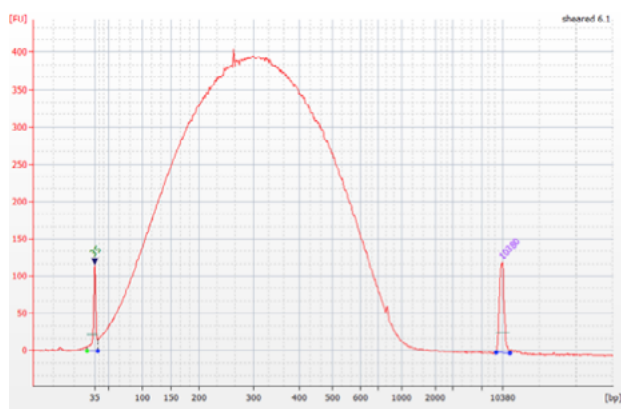

Figure 1: Typical Bioanalyzer trace for gDNA sheared to 300 bp using a Covaris Focused-ultrasonicator.
- If enough sheared/fragmented gDNA is available, analyze 1 µL on a Bioanalyzer High Sensitivity Chip to determine size distribution. Be aware that very low DNA amounts are not detectable on a High Sensitivity Chip. See Figures 1 and 2 for typical Bioanalyzer traces.